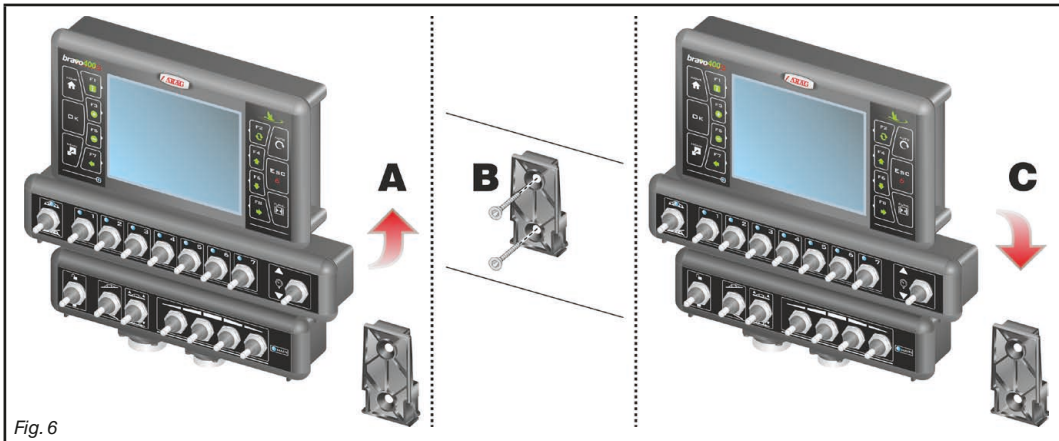

Fig. 6
The computer must be mounted after having fixed the bracket at the desired location (the previous paragraph shows the bracket drilling template). The bracket must be slid out of the computer seat (A, Fig. 6) and fixed using the supplied screws (B). Make sure the bracket is securely mounted, fit the computer on it, and push it until it locks in place (C).